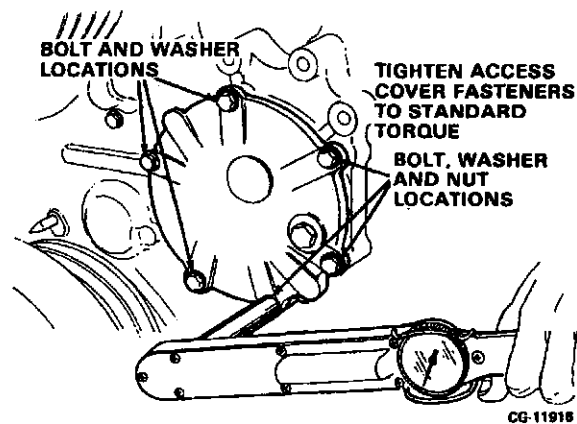

Figure 11.78. Install Injection Pump Drive Gear Access Cover
4. Install the injection pump drive gear access cover using a new gasket as follows (Refer to Figure 11.78.):